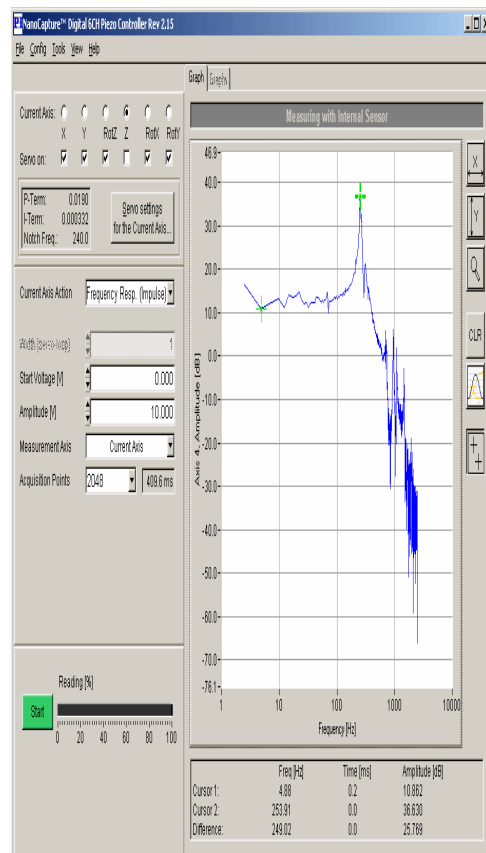

Fig. 44: Select Frequency Response (Impulse)
3. In the *Current Axis Action* field, select *Frequency Response* (Fig. 44). *Frequency response* involves exciting an axis with an impulse move (IP command, p. 119) and recording/displaying the resulting motion.